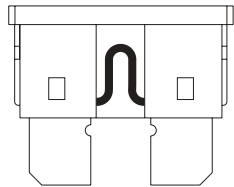

Figure 23. Working Fuse
- Examine the fuse to be sure it is blown. See figures 23 and 23A.